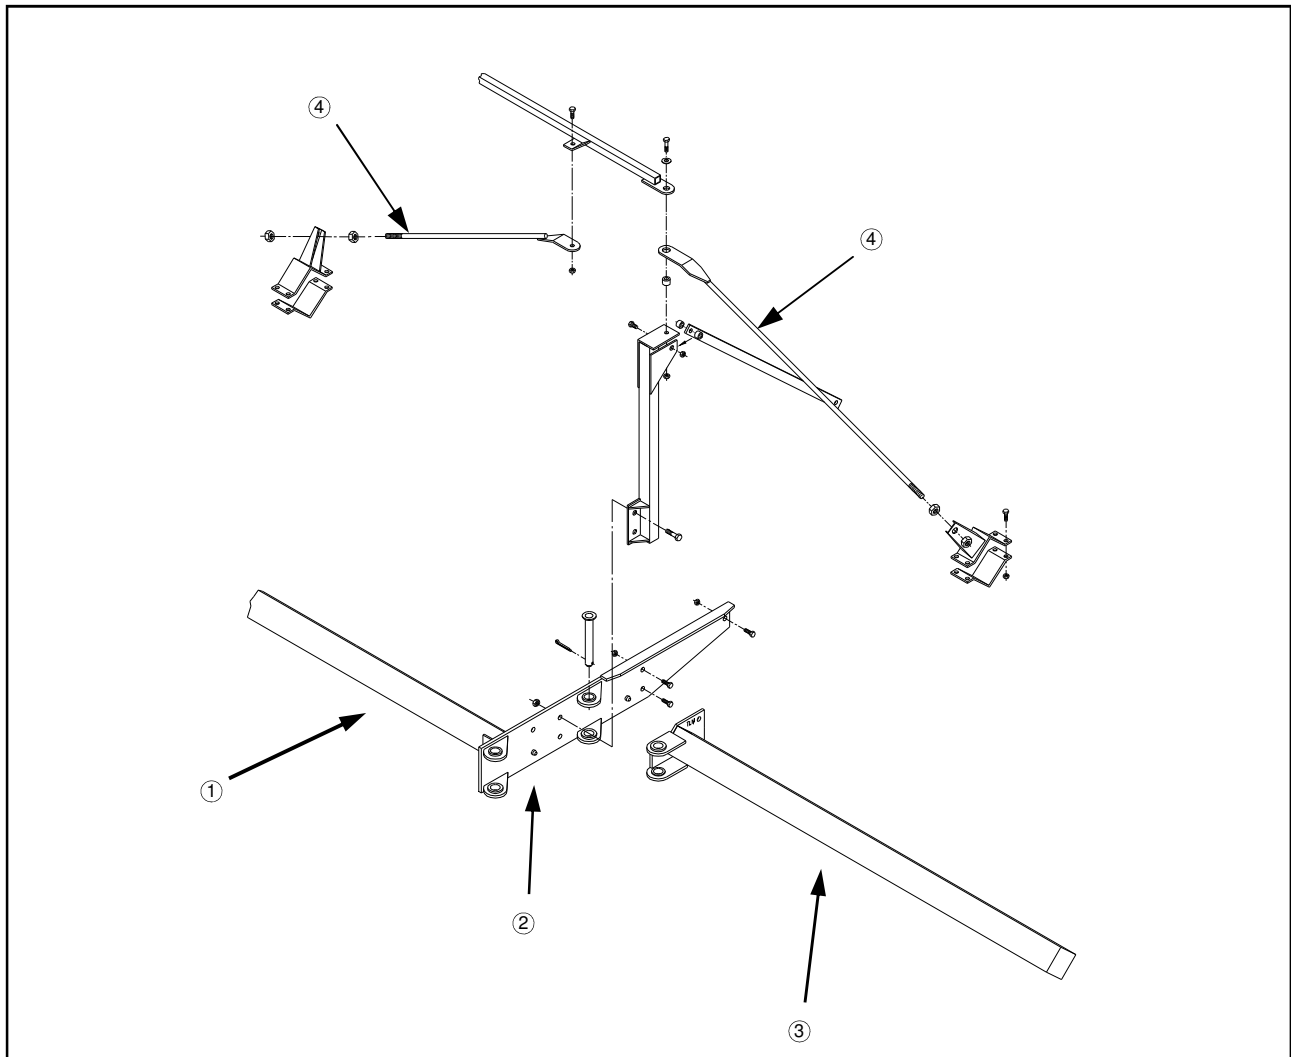

FIG 4.11
1. Attach the center tool bar (fig. 4.11, item 1) to front frame cross member with supplied hardware according to the Hagie 204 Parts Manual.
The guide pin that is welded to outrigger mount should be located toward the bottom (fig. 4.11, item 2).
2. Attach left and right outrigger (fig. 4.11, item 3) with supplied hardware. Refer to the Hagie 204 Parts Manual.
3. Attach outrigger support rods if required (fig. 4.11, item 4).